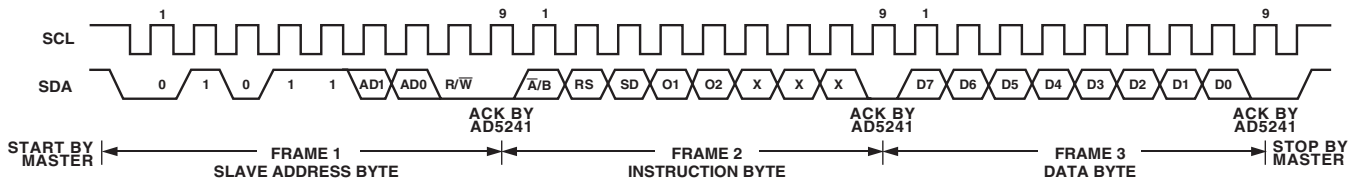

Figure 2. Writing to the RDAC Serial Register
Referring to Figures 2 and 3, the first byte of AD5241/AD5242 is a Slave Address Byte. It has a 7-bit slave address and an RW Bit. The 5 MSBs are 01011 and the following two bits are determined by the state of the AD0 and AD1 Pins of the device. AD0 and AD1 allow users to use up to four of these devices on one bus.
1. The master initiates data transfer by establishing a START condition, which is when a high-to-low transition on the SDA line occurs while SCL is high (Figure 2). The following byte is the Slave Address Byte, Frame 1, which consists of the 7-bit slave address followed by an RW Bit (this bit determines whether data will be read from or written to the slave device).
Pin except that  $\overline{\text{SHDN}}$  Pin reacts to active low. The following two bits are  $O_2$  and  $O_1$ . They are extra programmable logic outputs that users can use to drive other digital loads, logic gates, LED drivers, analog switches, and the like. The three LSBs are Don't Care. See Figure 2.
3. After acknowledging the Instruction Byte, the last byte in Write Mode is the Data Byte, Frame 3. Data is transmitted over the serial bus in sequences of nine clock pulses (eight data bits followed by an Acknowledge Bit). The transitions on the SDA line must occur during the low period of SCL and remain stable during the high period of SCL (Figure 2).
5. When all Data Bits have been read or written, a STOP condition is established by the master. A STOP condition is defined as a low-to-high transition on the SDA line while SCL is high. In Write Mode, the master will pull the SDA line high during the tenth clock pulse to establish a STOP condition (see Figure 2). In Read Mode, the master will issue a No Acknowledge for the ninth clock pulse (i.e., the SDA line remains high). The master will then bring the SDA line low before the tenth clock pulse, which goes high to establish a STOP condition (see Figure 3).
Specific to the AD5242 dual-channel device, the channel of interest is the one that was previously selected in the Write Mode. In addition, to read both RDAC values consecutively, users have to perform two write-read cycles. For example, users may first specify the RDAC1 subaddress in the Write Mode (it is not necessary to issue the Data Byte and the STOP condition), then change to the Read Mode and read the RDAC1 value. To continue reading the RDAC2 value, users have to switch back to the Write Mode and specify the subaddress, then switch once again to the Read Mode and read the RDAC2 value. It is not necessary to issue the Write Mode Data Byte or the first stop condition for this operation. Users should refer to Figures 2 and 3 for the programming format.